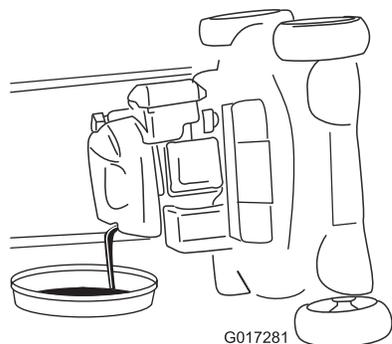

Figure 31
6. Remove the dipstick and drain the used oil into the oil-drain pan (Figure 31).